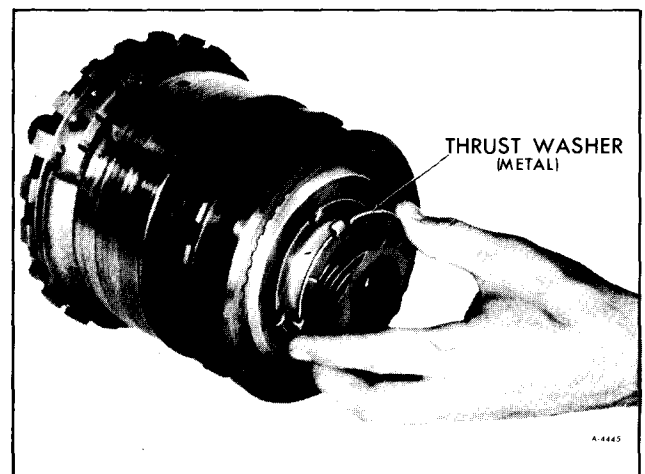

Figure 74—Installing Metal Thrust Washer
6. Laying gear unit on its side, install metal thrust washer on output flange washer on output flange with bent tabs in tab pockets. Retain thrust washer with petrolatum, Figure 74.